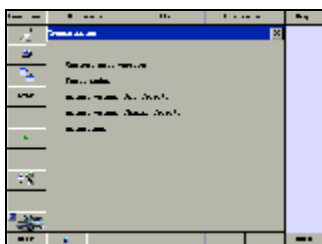
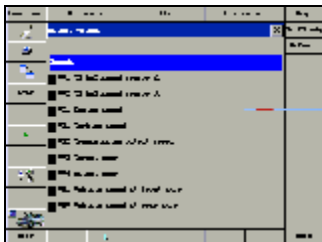

Fig.3.20
Fig.3.21
16. Select either **Control unit version**, **Fault codes**, **Actual values (All select)**, **Actual values (Manual Select)** or **Actuations as shown in Fig. 3.20**. Here we select **Actual values (All select)** to explain the self-study and actual value review as shown in Fig. 3.21.